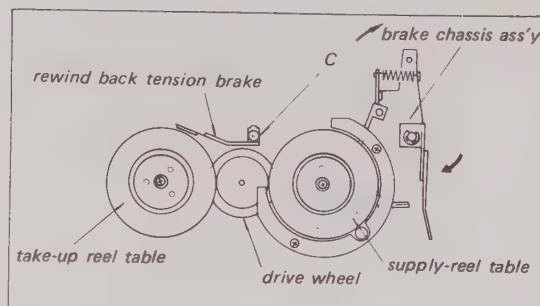

Fig. 5-13 (b). Reel table replacement
Reel tables require replacement if noise or vibration is evident due to the limiter or clutch springs (See Fig. 5-13 (a).) or if the torque of the Reel Tables is nonuniform. Remove the cassette loading compartment first and then, replace the Reel Tables as follows:
2. Move the Brake Chassis Assembly clockwise (See Fig. 5-13 (b).) and pull up the Reel Table. Be careful not to misplace a fiber washer (if used) beneath the Reel Table.
2. Remove screw C in Fig. 5-13 (b) and remove the Rewind Back Tension Brake Assembly.